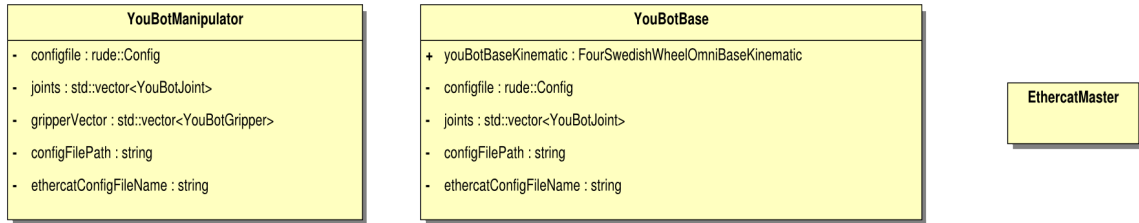

Figure 7.1: Main elements of the KUKA youBot API: YouBotManipulator and YouBotBase.
- The class `YouBotManipulator` represents the KUKA youBot arm as an aggregation of a series of joints and a gripper (see Figure 7.1).
- The class `YouBotBase` represents the KUKA youBot omni-directional platform (see Figures 7.1, 7.2).